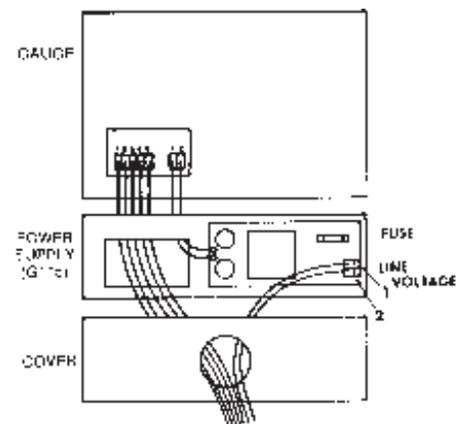

Fig. 8
4. Replace the power supply cover and adjust the wires for service loop. (See Fig.8).
4. Install a black (-) wire from the power supply assembly to Terminal 1 on the short terminal block on the gauge printed circuit board. Install a red (+) wire from the power supply board to Terminal 2 on the gauge printed circuit board. (Figs. 8 & 9)
6. Connect the 115 or 230 VAC power supply leads to Terminal 1 and 2 on the terminal block at the end of the power supply printed circuit board and feed these through the strain relief. (Figs. 8 & 9)
7. Replace the power supply cover, adjust the wire for service loop. (Fig. 8)